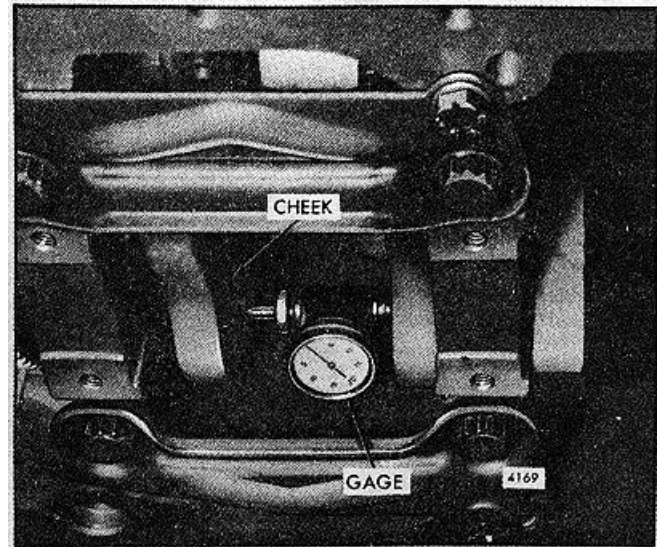

FIG. 10 - Crankshaft Distortion Measuring Gage Mounted on Crankshaft
- c. Install a gage (Starrett Co. No. 696, or equivalent) in the center punch holes in the cheek of each counterweight as shown in Fig. 10.